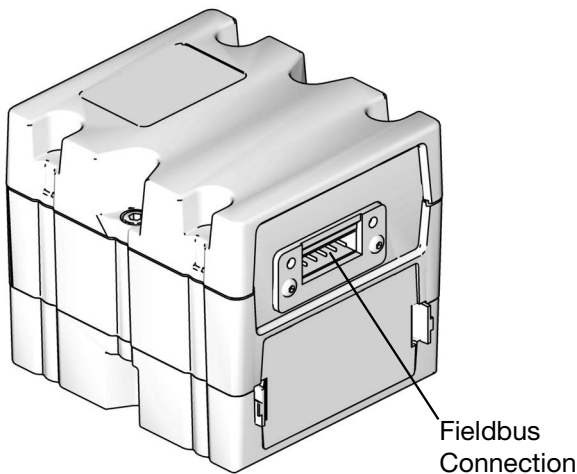

FIG. 26: CGM Fieldbus Connection
11. Connect the Ethernet, DeviceNet, or PROFIBUS cable to the fieldbus connection on the CGM as applicable. See **FIG. 26**.